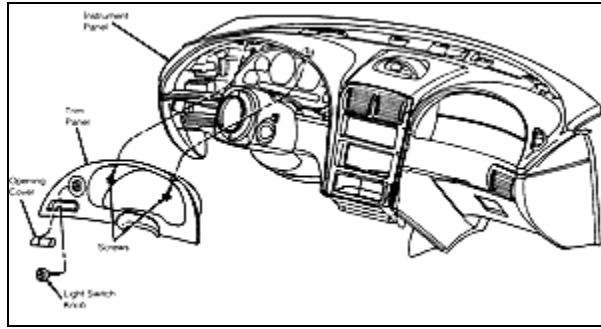

Figure 2
- C. Remove the two black screws from the top-inside of the instrument panel trim with a T-15 Torx Bit or a 7mm Socket Driver depending on year of the vehicle. (See Figure 2)